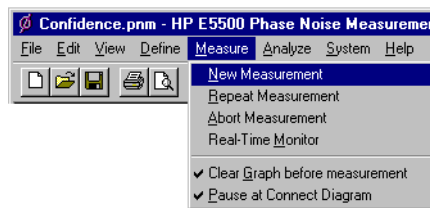

Figure 7-18 Selecting a New Measurement
- 1 From the **Measurement** menu, choose **New Measurement**. See Figure 7-18